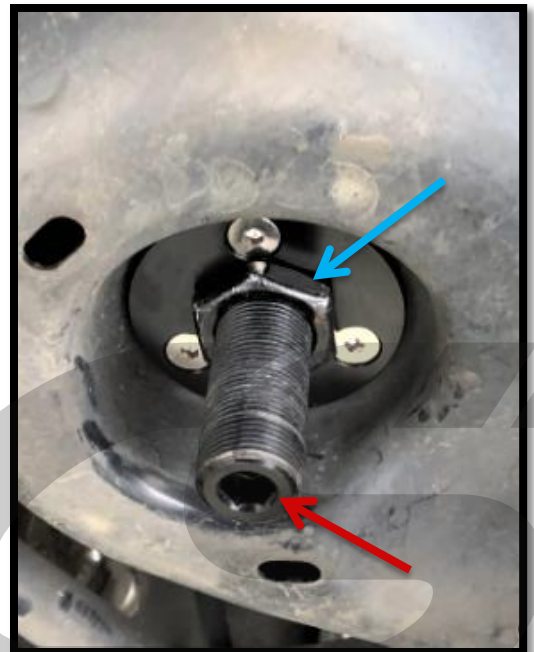

Figure 7b
- d) Moving to the rear of the vehicle, the height is adjusted by rotating the spring perch upwards or downwards. Rotate the spring perch using a 10mm Allen wrench/socket. The hole for the 10mm Allen is shown with red arrow in **Figure 7b**.
- f) Once happy with your rear ride height, attach the supplied locking nut to the bottom of the adjustable spring perch. Tighten against the bottom of the sandwich plate using a 32mm or 1 1/4" deep socket and ratchet or wrench. Locking nut shown with **blue arrow** in **Figure 7b**.